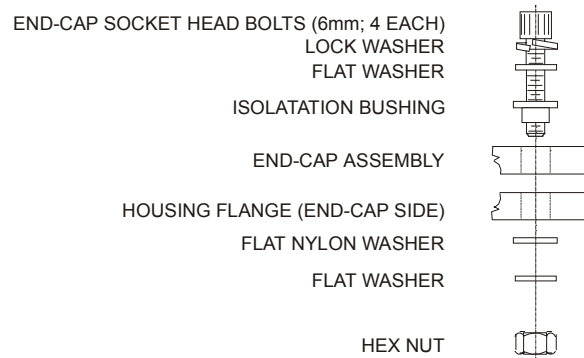

Figure 5. End-Cap Mounting Hardware
- f. Examine the end-cap assembly nuts, bolts, and washers (6 mm) for corrosion; replace if necessary. Figure 5 shows the assembly order of the end-cap mounting hardware. *All* the hardware items are needed to seal the Long Ranger properly.